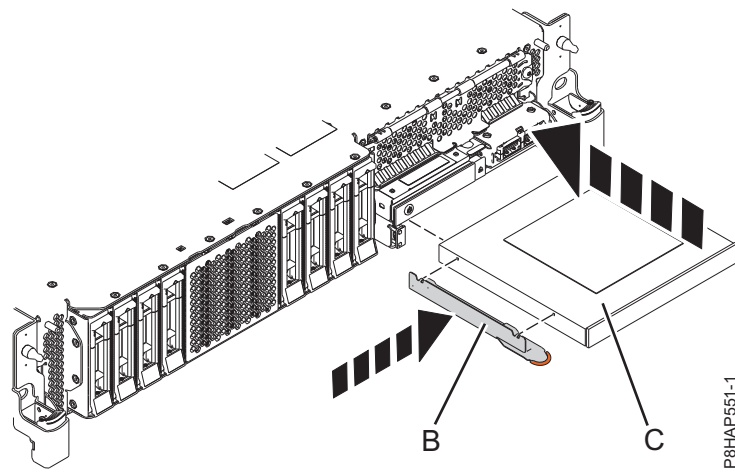
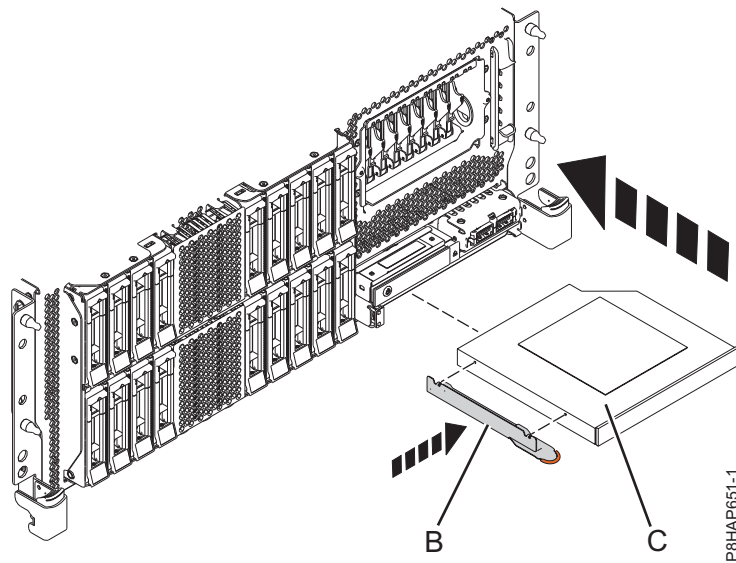
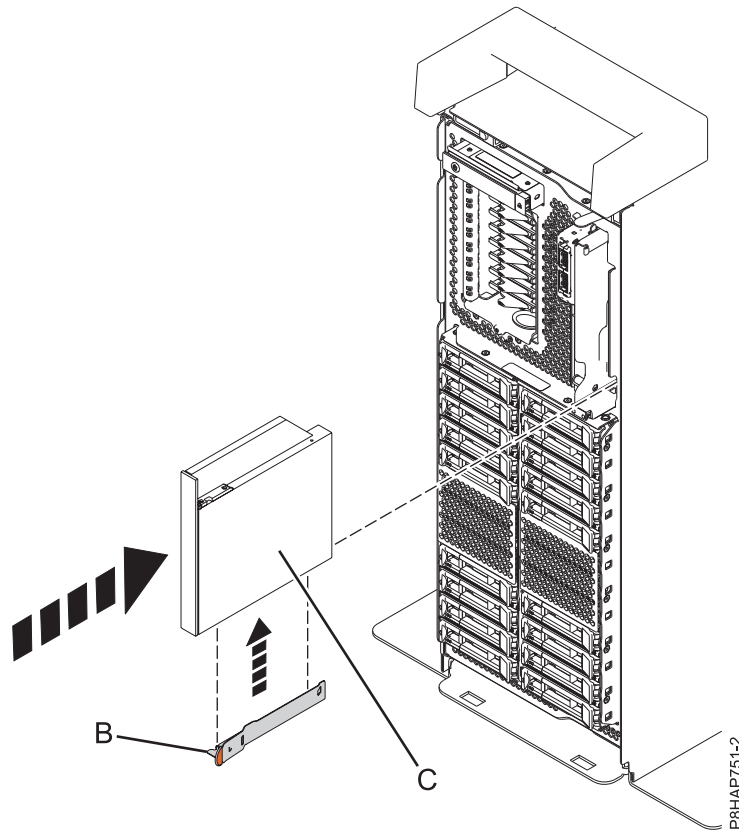

Figure 50. Replacing a Slimline media device in an 5148-21L, 5148-22L, 8247-21L, 8247-22L, 8284-21A, or 8284-22A system
Figure 51. Replacing a Slimline media device in a rack-mounted 8247-42L, 8286-41A, or 8286-42A system
Figure 52. Replacing a Slimline media device in a stand-alone system
6. Attach the retaining-bracket **(B)** to the new Slimline media device, as shown in Figure 50 on page 55 for an 5148-21L, 5148-22L, 8247-21L, 8247-22L, 8284-21A, or 8284-22A system, Figure 51 on page 55 for a rack-mounted 8247-42L, 8286-41A, or 8286-42A system, or Figure 52 on page 56 for a stand-alone 8286-41A system.
For an 5148-21L, 5148-22L, 8247-21L, 8247-22L, 8284-21A, or 8284-22A system, see Figure 50 on page 55, for a rack-mounted 8247-42L, 8286-41A, or 8286-42A system, see Figure 51 on page 55, or for a stand-alone 8286-41A system, see Figure 52 on page 56.